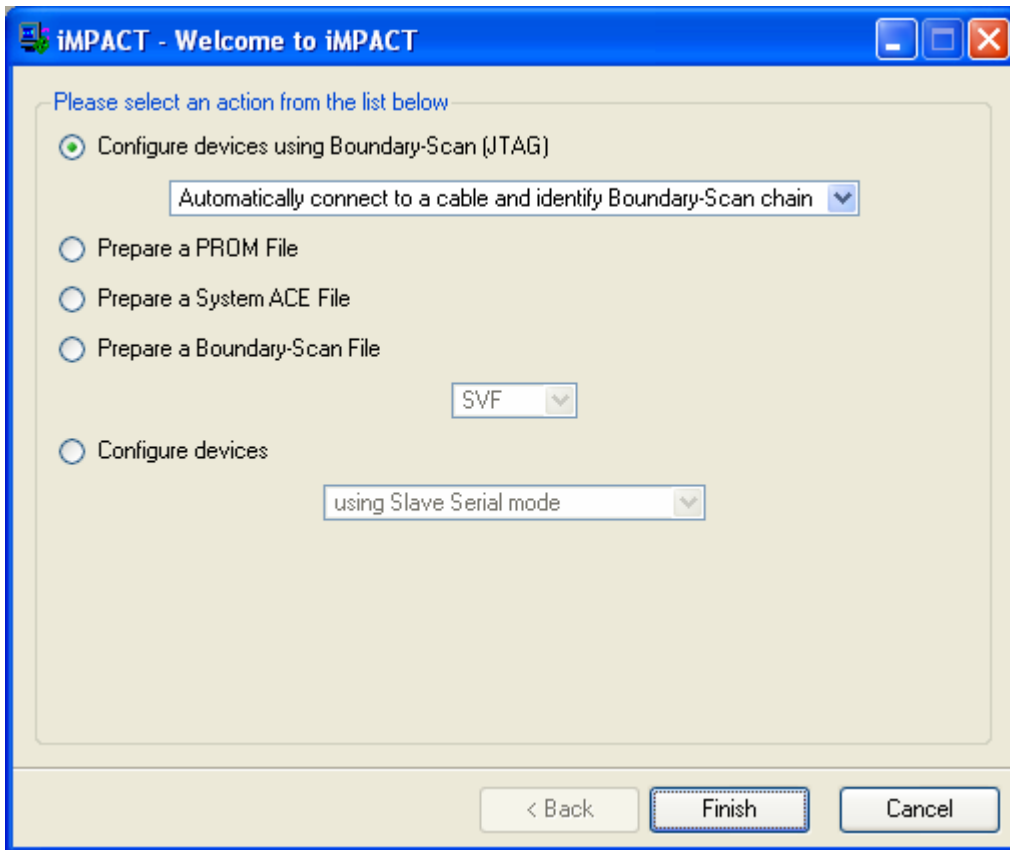

Figure 4. iMPACT is used to configure your FPGA via the JTAG port.
Now you are ready to program the board. If you are running the Xilinx tools on the PC attached to the cable, you can double click on “Configure Device (iMPACT)” as shown in Figure 4.
1. Click “Finish” in the window shown in Figure 4.